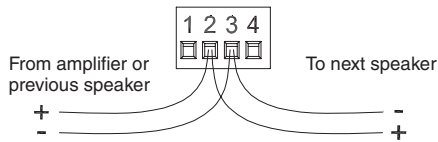

Figure 9: Parallel wiring
1. **Wiring in parallel.** Connect the wire pair of the subsequent speaker to pins 2 and 3. When one input connector is removed, subsequent speakers will remain connected. See Figure 9.